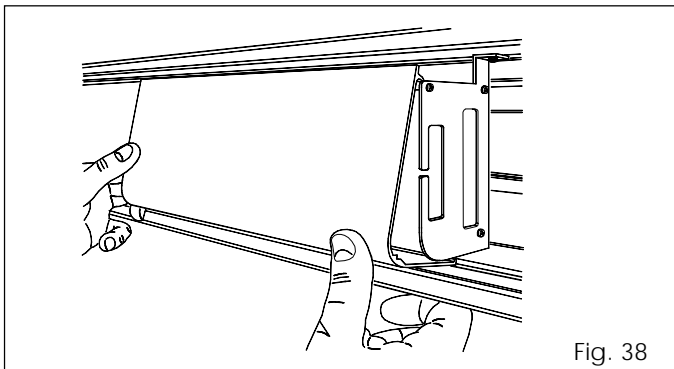

Fig. 38
- To refit it, attach it on the top part and press as shown in fig. 38.